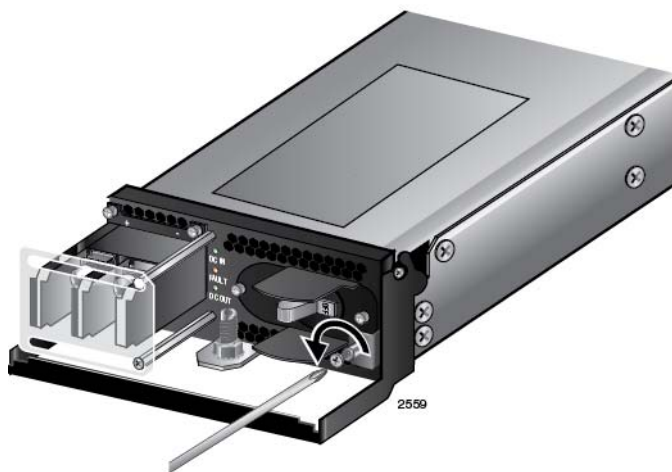

Figure 63. Loosening the Handle Locking Screw on the AT-SBxPWRSYS1 DC Power Supply
5. With a #2 Phillips-head screwdriver, loosen the handle locking screw on the power supply, as shown in Figure 63.